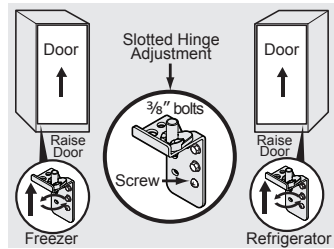

Figure 2
The doors may also be adjusted side to side with the slotted hinge for aligning the doors parallel to each other. Loosen the two bolts with a 3/8" wrench and one screw with a Phillips screwdriver. Shift the doors until parallel, then retighten the screw and bolts securely. (See Figure 2.)
1. If the refrigerator door is lower than the freezer door, raise the refrigerator door by turning the adjustment screw clockwise using a 7/16" socket wrench. (See Figure 2.)
2. If the freezer door is lower than the refrigerator door, raise the freezer door by turning the adjustment screw clockwise using a 7/16" socket wrench. (See Figure 2.)